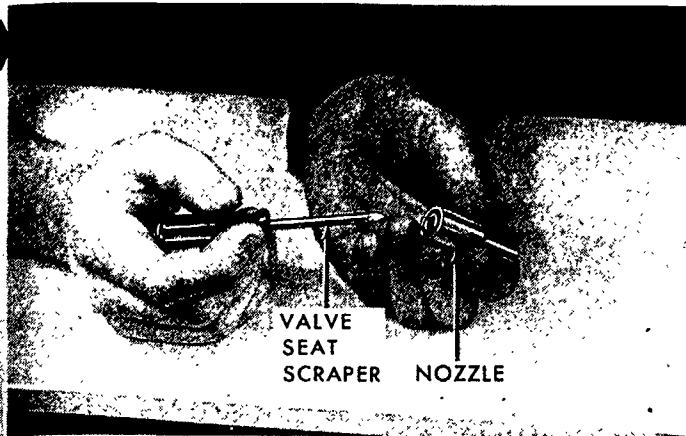

Figure 33
4. Clean the valve seats by inserting the Valve Seat Scraper, page 32, in the nozzle, Figure 33 and rotating with light pressure. Then clean the upper chamber with the same tool.